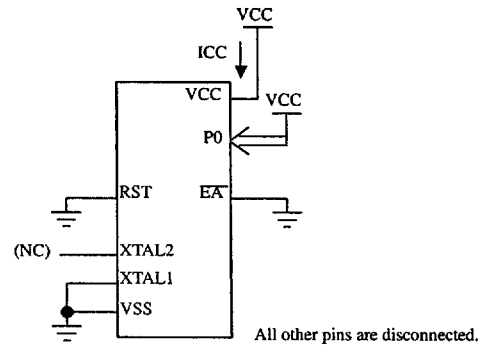

Figure 19. ICC Test Condition, Power Down Mode.
- Idle ICC is measured with all output pins disconnected; XTAL1 driven with TCLCH, TCHCL = 5ns, $V_{IL} = V_{SS} + 0.5\text{V}$, $V_{IH} = V_{CC} - 0.5\text{V}$; XTAL2 N.C.; Port 0 = VCC; $\overline{EA} = \text{RST} = V_{SS}$ (see Figure 19.).
- Power Down ICC is measured with all output pins disconnected; $\overline{EA} = \text{PORT } 0 = V_{CC}$; XTAL2 N.C.; RST = VSS (see Figure 19.).